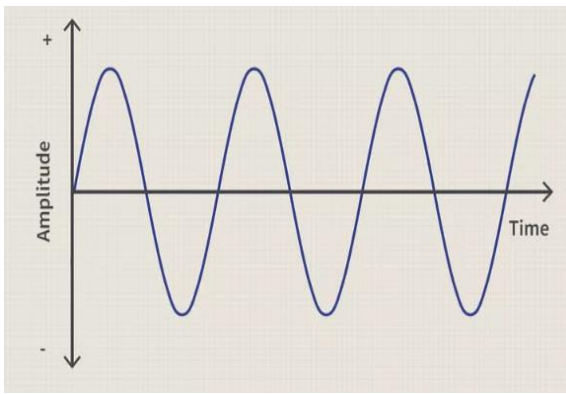

Figure 2 : Basic Alternating Current
- Those shown in Figure 2 and 3 are simple waveforms